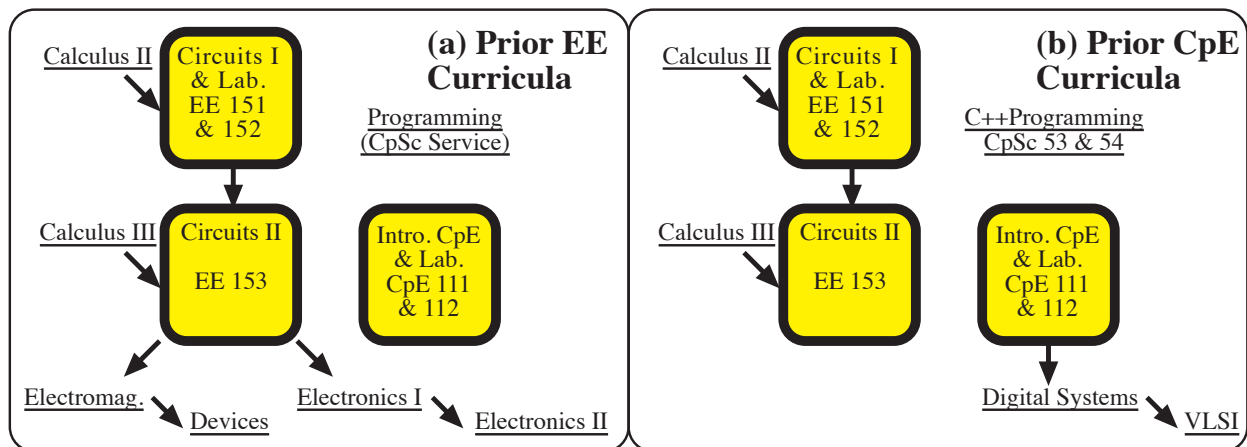

Figure 1. Selected Required Courses for (a) EE Majors and (b) CpE Majors in Prior Curricula
Selected courses in the prior curricula for B.S. degrees in electrical engineering (EE) and computer engineering (CpE) are shown in Figure 1. Although the degrees were offered within the same department, the EE degree requirements and the CpE degree requirements had limited overlap. Common in-department requirements were limited to basic circuit analysis and computer engineering content, i.e. Circuits I EE 151, Circuits II EE 153, and Introduction to Computer Engineering CpE 111, and associated laboratories. (The EE and CpE course numbers are designated such that the first digit refers to the year, e.g. 1XX course for sophomore level; the second digit for the area, e.g. 12X for devices and 15X for circuits; and the last digit for the specific course.) Prerequisites for many upper-level courses in EE made it difficult for CPE students to cross over and vice versa for EE students wanting CpE courses. New elective courses tended to be developed for either EE majors or for CpE majors.